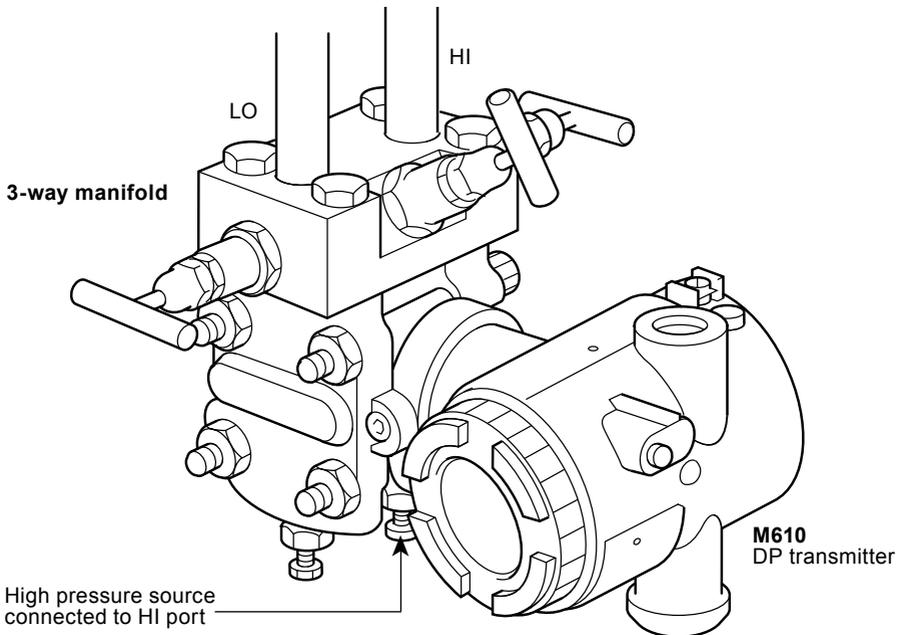

Fig. 24
- 7.2.8 Using a suitable precision pressure source attached to the HI pressure port of the DP transmitter as shown in Figure 24, apply a pressure corresponding to the set pressure of the unit. (For ILVA flowmeters, this is normally factory set to 498 mbar/200 inches water gauge).